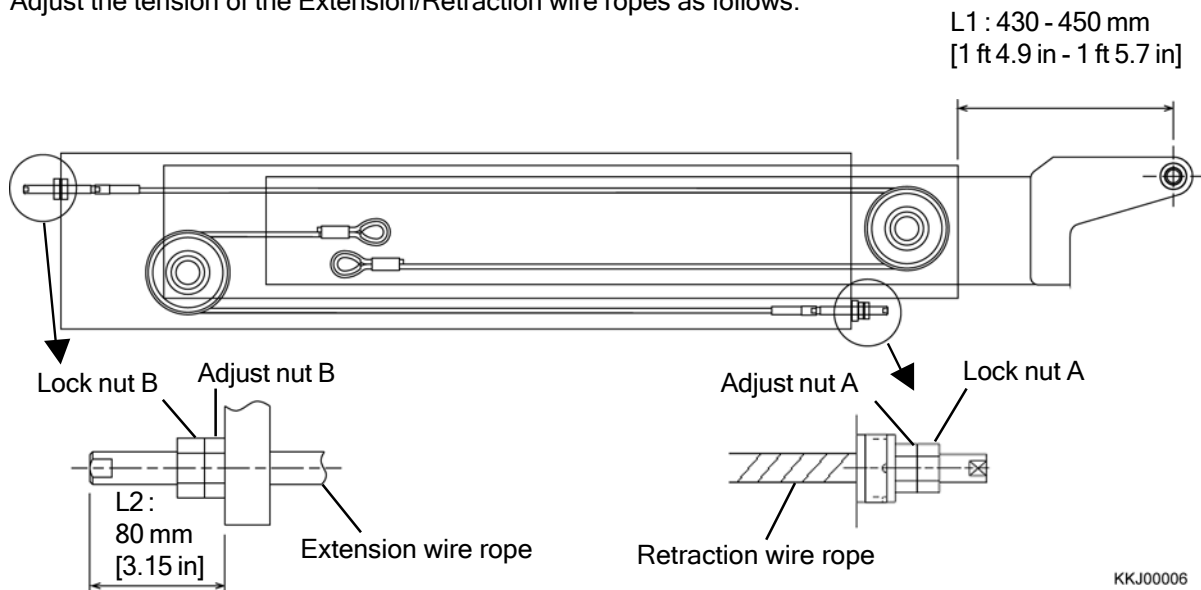

Fig. 2-21 Wire rope adjustment
- 3) Loosen the Lock nuts A and the Adjust nuts A at the terminal end of the retraction wire ropes, and then make sure that the 6 plate springs, shims, 2 washers and 1 collar are assemble at the end of the retraction wire rope as shown in the Fig. 2-21.